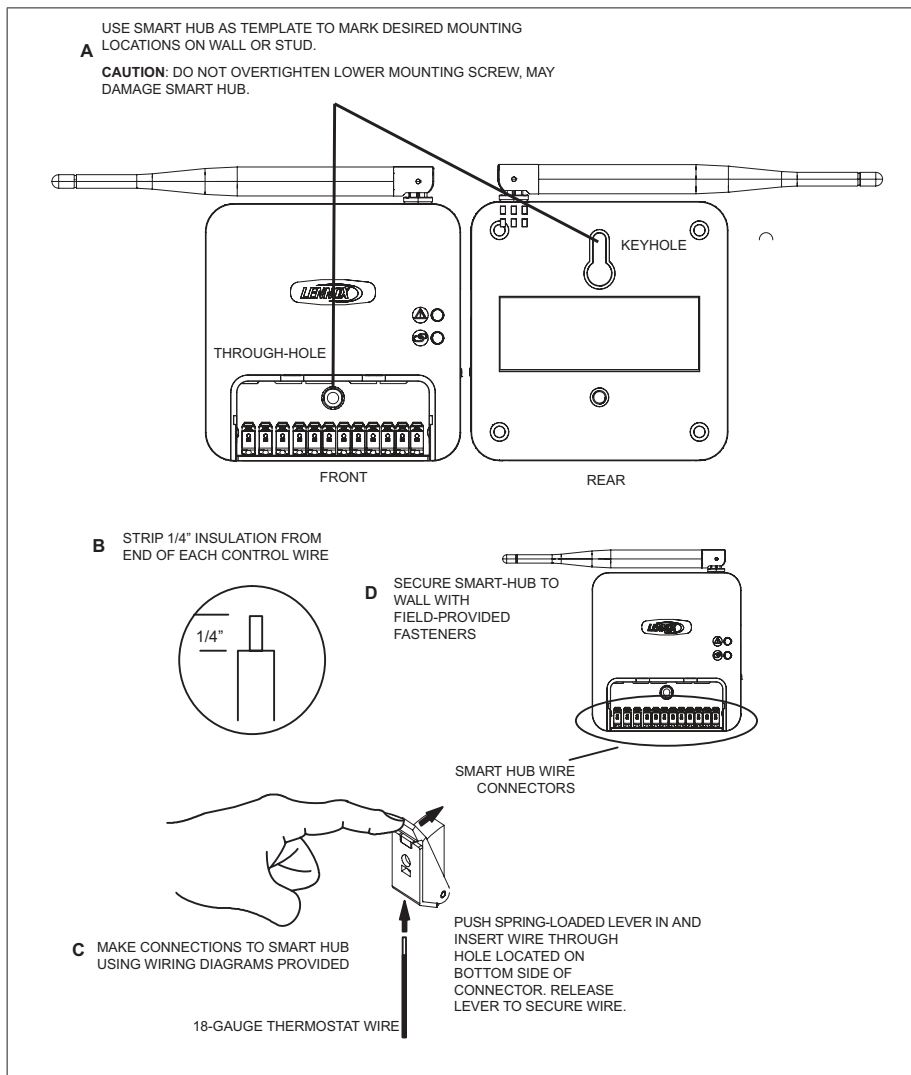

Figure 1. Smart Hub Installation
2. Use the following procedure outlined in “Figure 1. Smart Hub Installation” to install the Smart Hub controller.